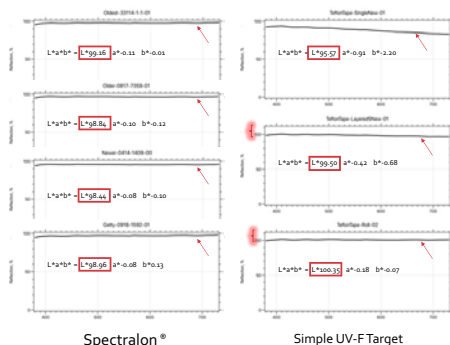

Figure 4. Reflectance measurements
Using the i1Pro (3) Spectrophotometer and processing the data using SpectraShop™ 6 (CIE LAB 1976) spectral curves were obtained for four different 99% reflectance Spectralon® standards, three one-inch round and one 2x2 inch (left side of figure 4). From the graphs we can clearly see that the reflectance behavior is as expected, a linear response (for clean and soiled targets) at or close to 99% reflectance in the visible spectrum range of 380 to 730 nm.  $L^*a^*b^*$  values are shown as reference as well.
we can see that the curves obtained vary depending on the amount of PTFE layers used. When a single layer of PTFE is used, we can see reflectance interference coming from the shiny foil underneath, causing the curve to slope down at higher visible nanometer values (Figure 4, top right graph). In contrast when we measured the 5-layer PTFE tape, the shiny foil effect is eliminated, and we obtain a straight-line across the spectrum very much like the Spectralon's® one (Figure 4, middle right graph).
The last graph was made out of curiosity to see what result would be obtained when measuring the PTFE tape directly in its spool (Figure 4, bottom right graph).